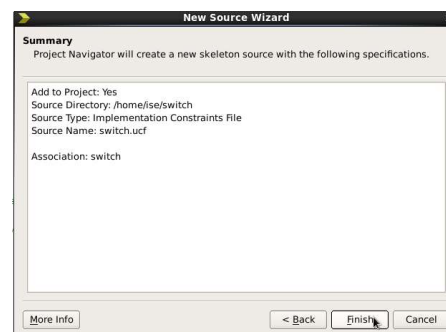

Fig 1.26: Summary Window
28. **Summary Window** will be displayed (Fig 1.26).Select **Finish**.